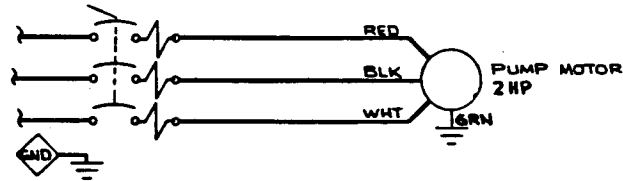

Figure 7. Elementary Wiring Diagram (Without Liquid Level Controls)
- a. Measure the incoming voltage across lines (1 & 2, 2 & 3, and 1 & 3, or 1 & 2 if 1 phase is installed.) while the pump is operating at full capacity. See Figure 7 on page B-15 or Figure 9 on page B-16..
Connect the pump power cable to the control box as shown in Figure 7 on page B-15 or Figure 9 on page B-16. Use conduit or cable clamps to secure the power and accessory cables to the control box. Make certain that all connections are tight and that cable entry points are rainproof.